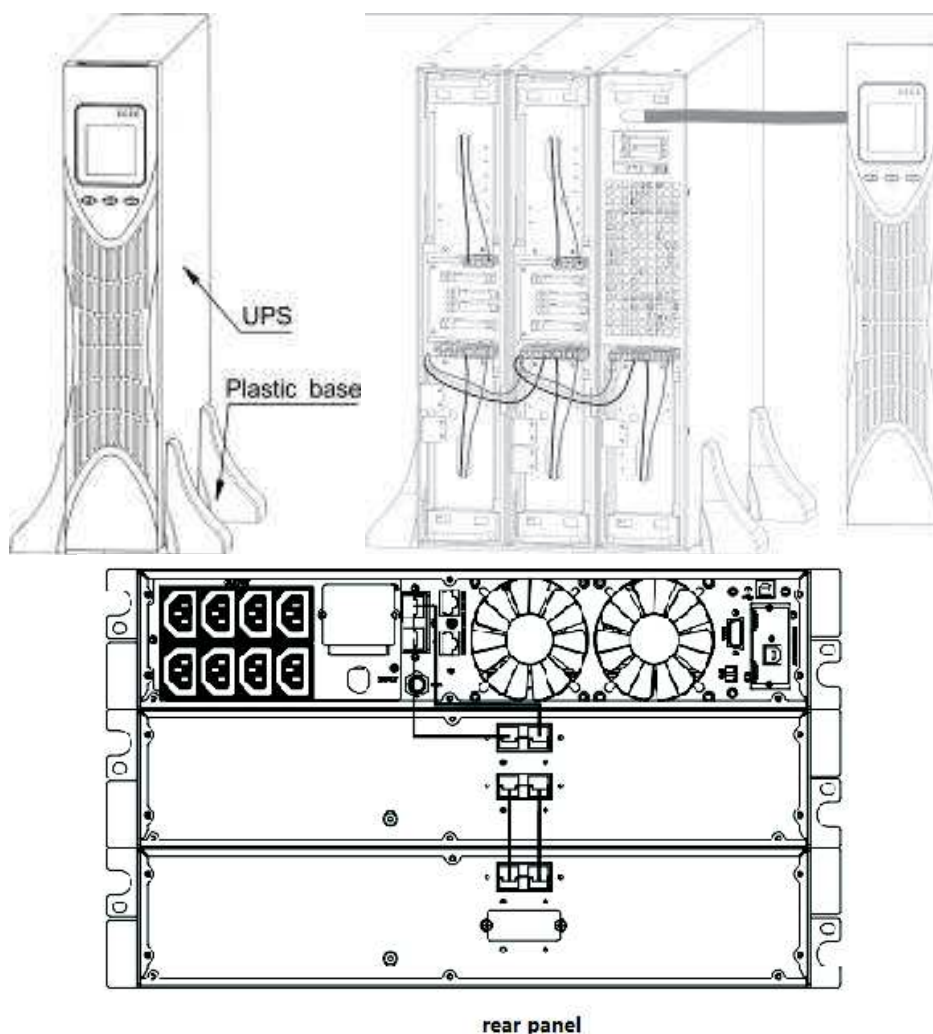

Figure 13 The installation for UPS and battery box
- The installation between UPS and EBPS can be referred to Fig.13
- Install the base, then place the RT UPS on the base one by one as Fig.13 shows.